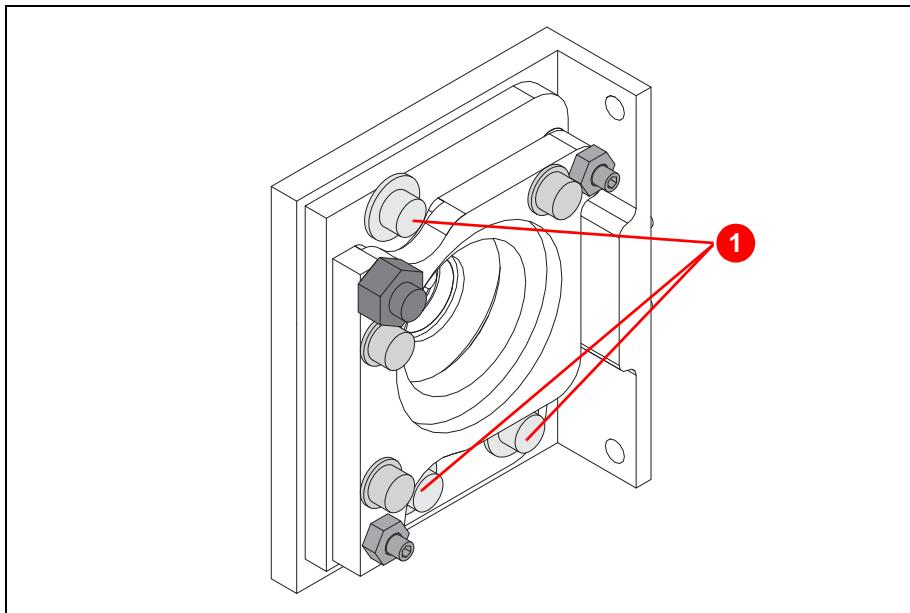

Figure 6.31 Fit the beam expander mount
39. Loosen the screws (1) (Figure 6.31).